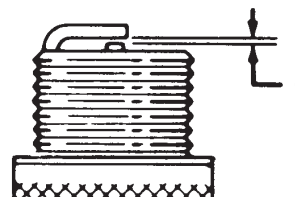

Figure 37
6. Set the gap between the electrodes on the spark plug at 0.030 inch (0.76 mm) as shown in Figure 37.